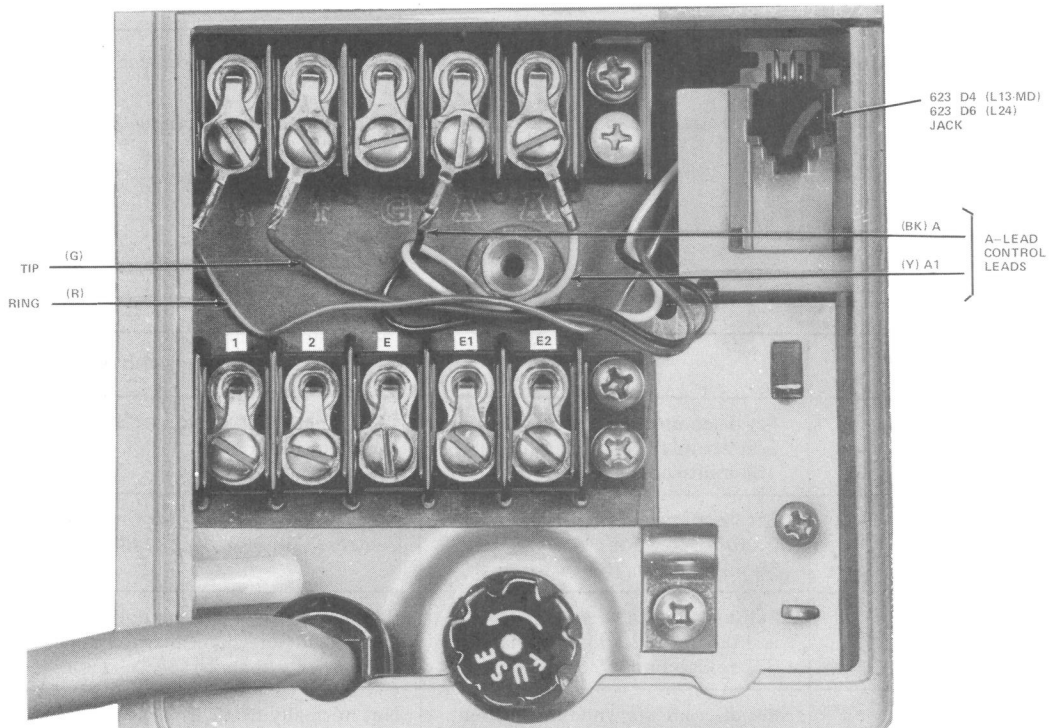

Fig. 28—KS-19245, List 13 (MD) Telephone Answering Set—Terminal Board
- (b) For List 13 only, insert a D4BU mounting cord (ordered separately) into the 623D4 jack at rear of set (Fig. 28).
- (c) For List 24 only insert D6AP mounting cord (ordered separately) into the 623D6 jack in rear of answering set (Fig. 28).